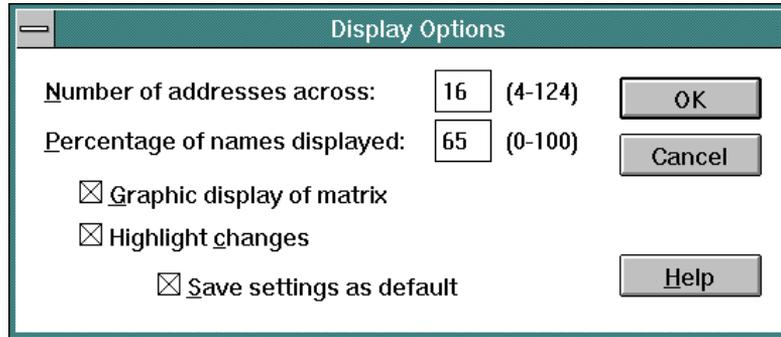

Figure 146. *Display Options Dialog Box*
- Select the *Display Options* option from the *View* menu. The *Display Options* dialog box appears (Figure 146).